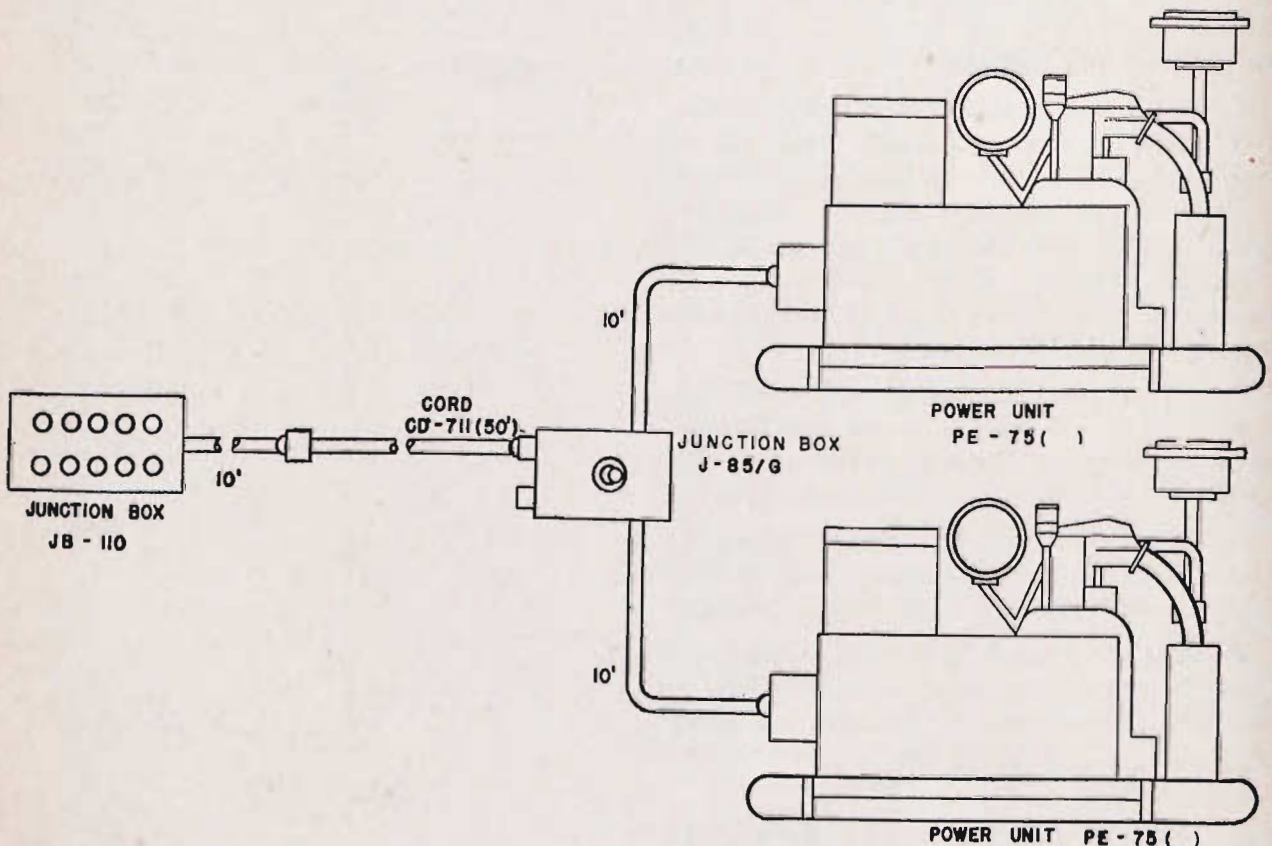

Figure 43. Cording diagram for two Power Units PE-75-().
a. **Power Unit PE-75-()**. Refer to paragraph 41c. Connect Power Units PE-75-(), Junction Box J-85/G, Cord CD-711, and Junction Box JB-110 as shown in figure 43. If only one power unit is to be used, connect Cord CD-711 directly to the power unit and omit Junction Box J-85/G (fig. 44).
b. **Radio Transmitter T-30/TRC-8 (XC-3) and Radio Receiver R-48/TRC-8 (XC-3)**. (1) Refer to